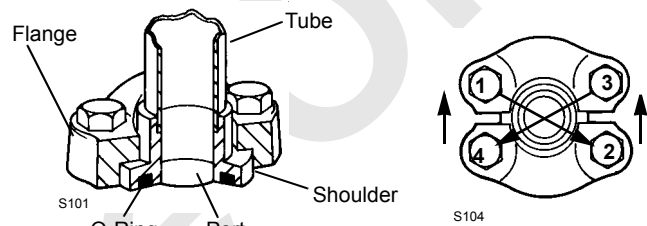

FIGURE 2-8
- Lubricate and install o-ring in shoulder groove (see Figure 2-8).
- Snug bolts in a diagonal manner (see Figure 2-8) to 1/3 of torque given in Table 2-7.